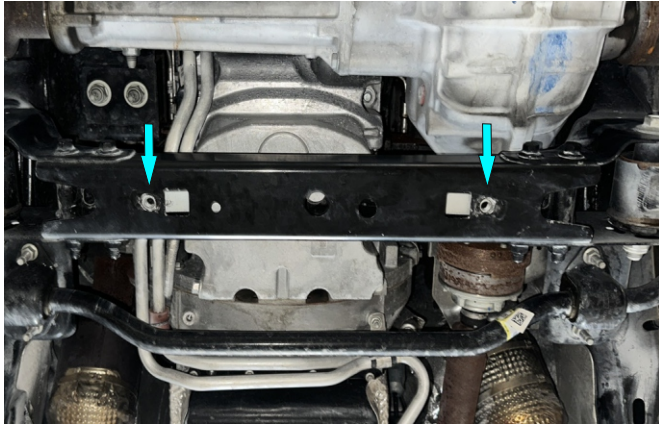

Fig. 1
1. Remove factory clip nuts and install M10 insert nuts (item A) as shown in fig.1.